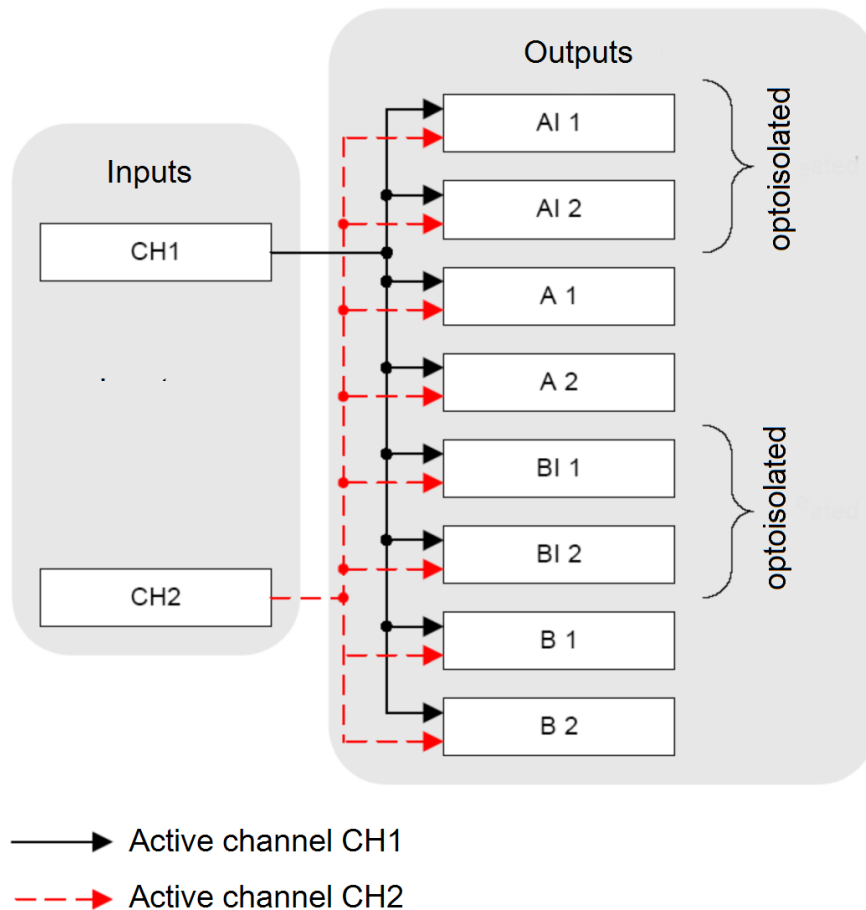

Figure 5 – the Product’s operation scheme in signal multiplication mode
2.3.2.1 In this mode the Product receives data from active input “CH1” or “CH2” and transmits it to eight outputs, see Figure 5.